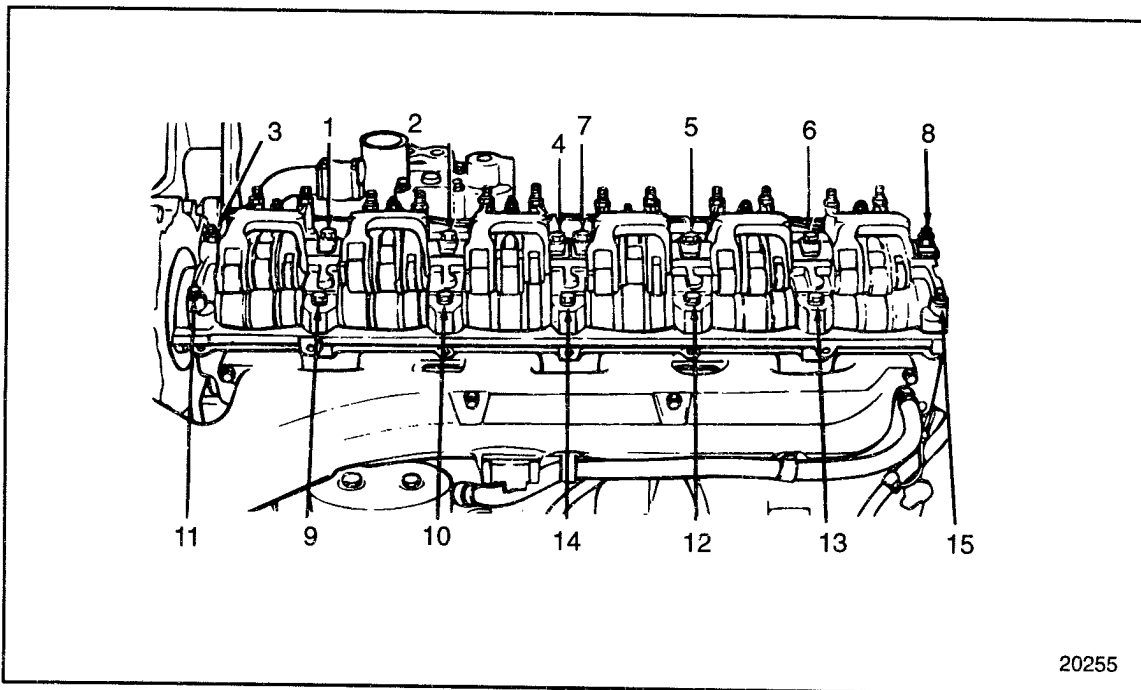

FIGURE 1-292 Camshaft Cap and Rocker Arm Shaft Bolt and Nut Torque Sequence
9. Tighten the 13 camshaft cap bolts and two nuts to 101-116 N·m (75-85 lb·ft) using the sequence. See Figure 1-292.